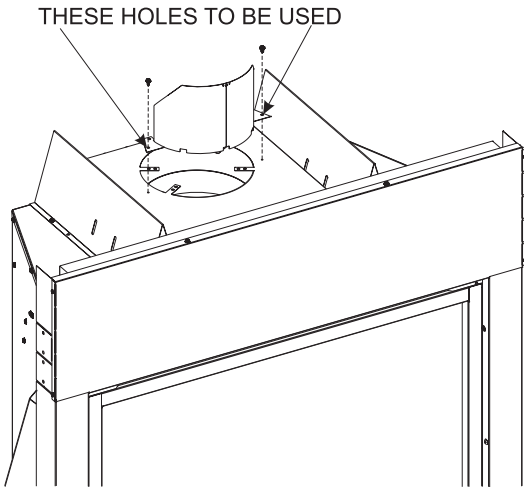

Figure 41 (vent pipe removed for clarity)
- Attach to insulation box as shown in **Figure 41**.